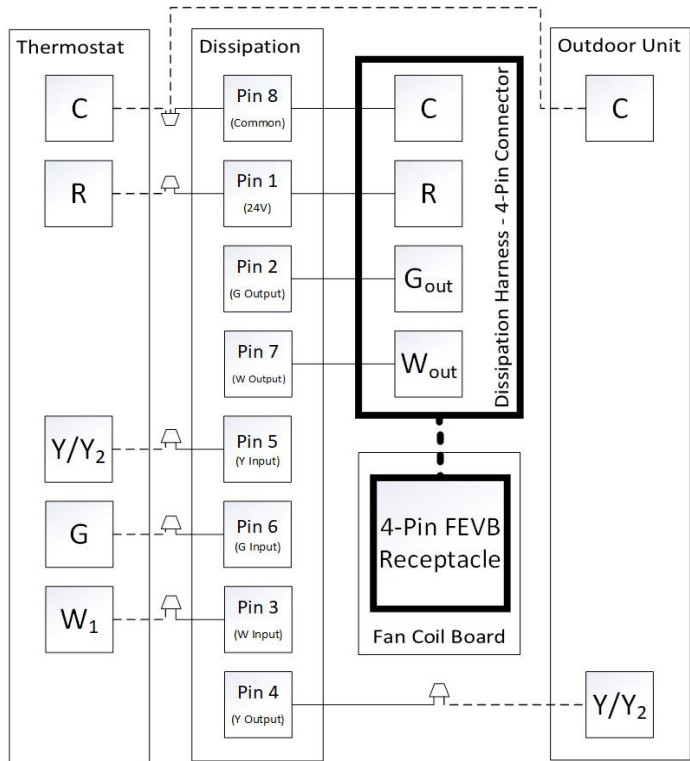
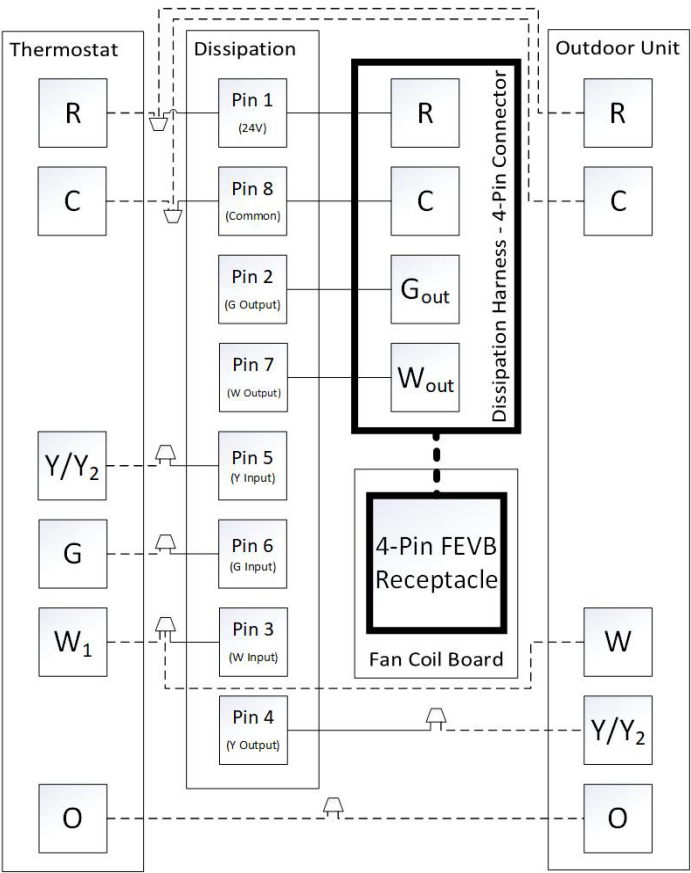

Fig. 10 – Thermostat to FEVB Dissipation Harness A240026
Fig. 11 – Thermostat to Dissipation Power Harness A240027
3. In the FEVB control Box, remove the 4-pin connector for the thermostat signals to main FEVB Harness. Dispose of this "pig tail" harness (Fig. 10).
5. Wire the thermostat signals to the dissipation power harness as shown in the wiring schematics below (Fig. 10, Fig. 11).
Refer to outdoor unit Installation Instructions for system start-up instructions and refrigerant charging method details. Also refer to the NAVA wiring layout diagrams (Fig. 10, Fig. 11).
Refer to Fig. 10 and Fig. 11 for low voltage field connections between the dissipation board and the thermostat. All control wires are labeled with the wire function and landing point.